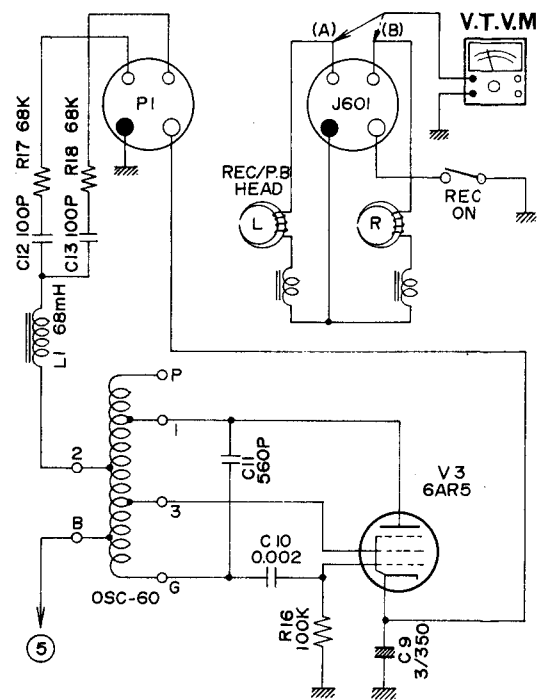
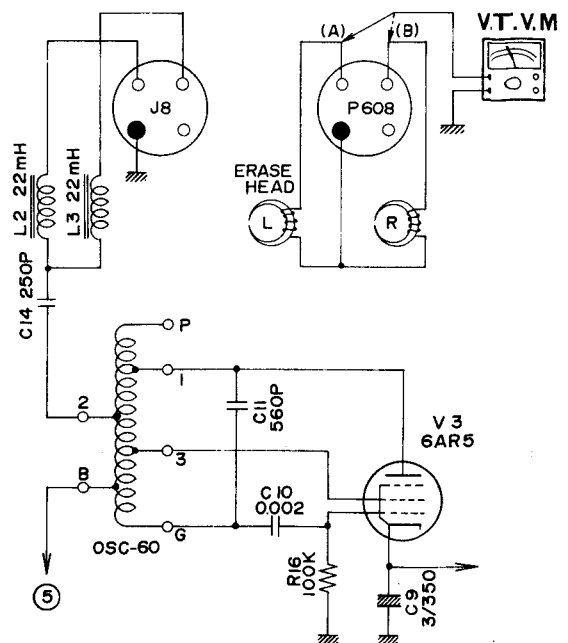

Fig. 2
Fig. 3
2. ADJUSTMENT OF RECORDING BIAS VOLTAGE (Fig. 2)
- Connect the V.T.V.M. to the point (A) and (B), then read the figure on the meter of the V.T.V.M.
3. ADJUSTMENT OF ERASING BIAS VOLTAGE (Fig. 3)